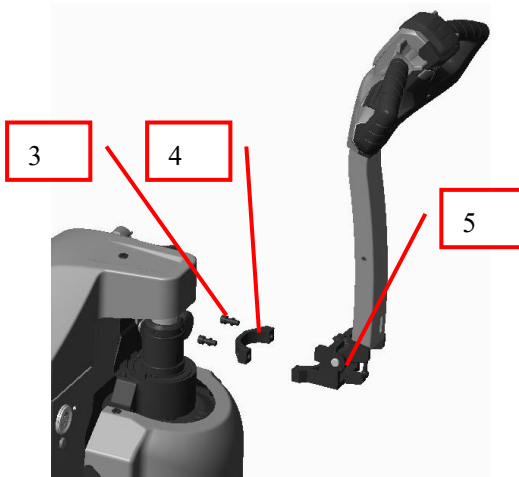

Fig.17
- (Fig.17) Remove the platen 4 from the handle 5;